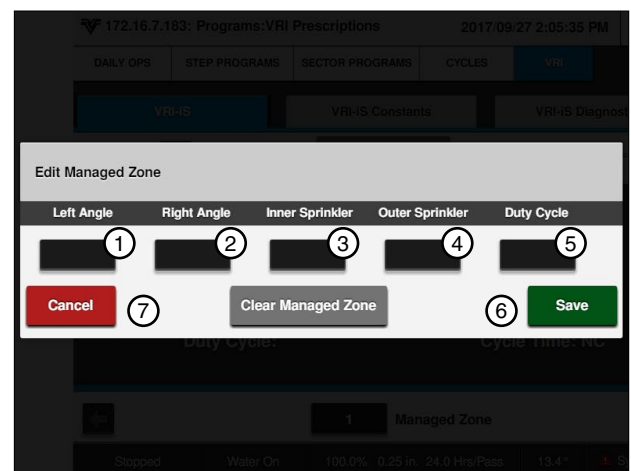

Figure 173-2 1. Left Angle
4. Select the **Left Angle** field and enter the Left Angle using the numeric keypad. Refer to Figure 173-2.